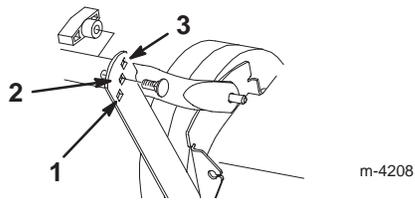

Figure 15
The handle has three height positions: high, medium, and low (Fig. 15). Select a handle height position that is most comfortable for you.
1. Remove the handle bolts and knobs from the lower handle section and the support brackets (Fig. 15).
2. Secure the handle to the support bracket with two handle bolts installed from the outside and two knobs, using the height adjustment holes on the brackets that best fits your height (Fig. 15).